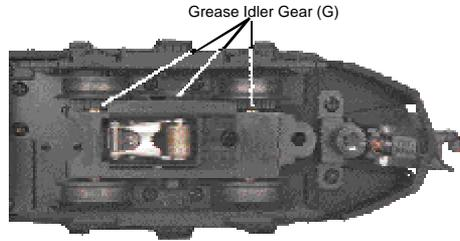

Figure 7: Power Truck Grease Locations
Lubricate the outside truck block idler and drive gears with grease. Use the diagram shown in Figure 7 as a guide and add grease to the points marked with a “G.”
B. Remove the trucks from the chassis and the truck sides from the trucks in order to slip the new tire over the grooved drive wheel. See Fig. 7 for which screws you must remove to do this.